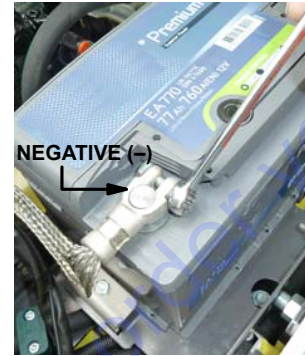

Figure 1. Disconnect Negative Battery Cable
1. Using a 13 mm wrench, loosen the bolt securing the negative (-) battery cable to the negative (-) terminal on the battery and disconnect it. See Figure 1.